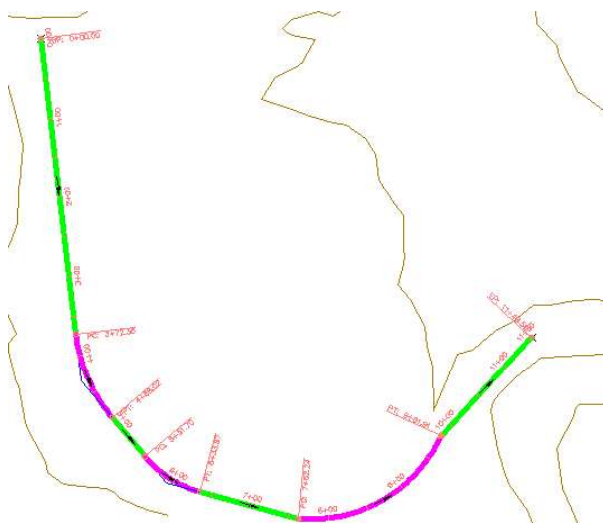

Figure 5-58 The **Street A** alignment after assigning the **New Alignment Style** to it
6. Now, choose the **Show/Hide Lineweight** button from the status bar at the bottom right of the screen; the alignment entities are displayed with the assigned linewidth (0.5mm), as shown in Figure 5-58.